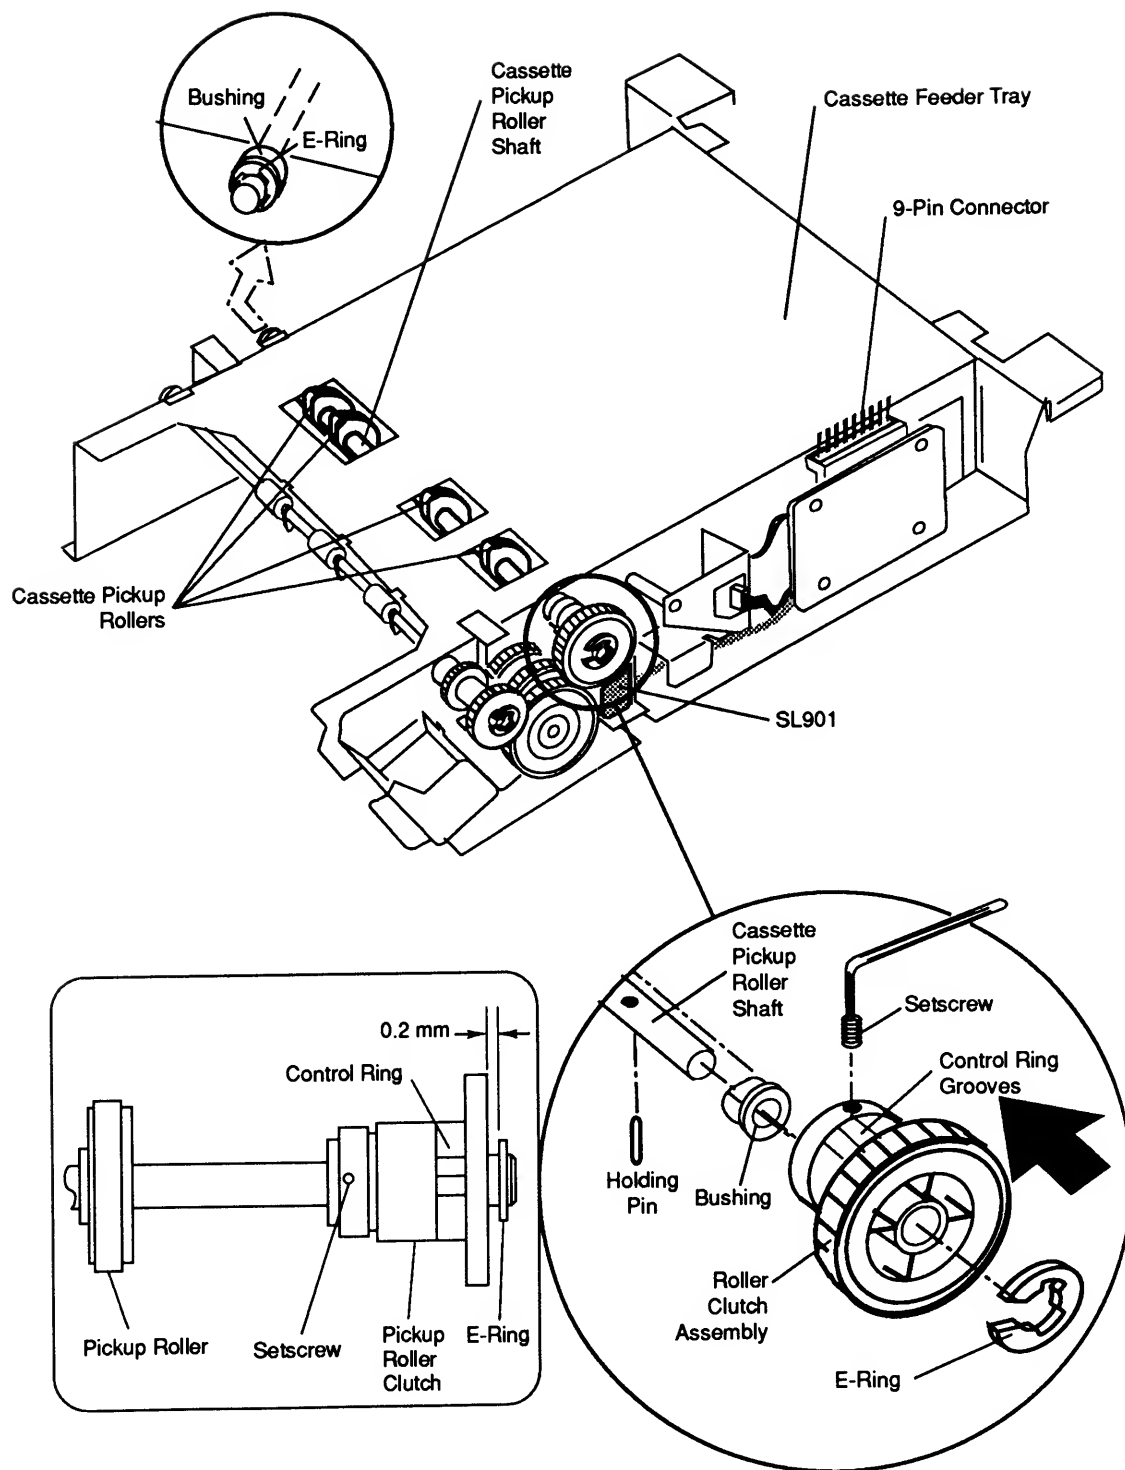

Figure 2-9 Cassette Pickup Roller Shaft
2. Install the bushing on the left side of the roller shaft and replace the E-ring (**Figure 2-9**).
3. Install the bushing on the right side of the pickup roller shaft (**Figure 2-9**).
4. Rotate the roller shaft so that the crescent-shaped pickup rollers protrude through the three cutouts on the cassette feeder tray (**Figure 2-9**).
7. Using the 1.5 mm Allen wrench, tighten the setscrew just enough to hold the assembly in place, and replace the E-ring on the right side of the pickup roller shaft (**Figure 2-9**).